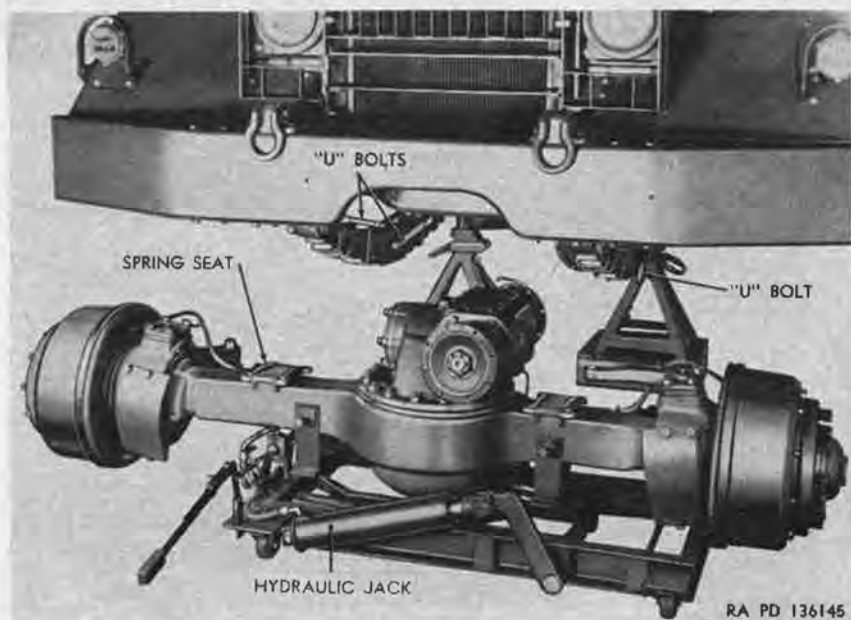

Figure 227. Removing front axle assembly.
- (9) *Remove front axle* (fig. 227). Lift the four U-bolts, two on each front spring, free of the spring seats, and lower hydraulic jack sufficiently to allow removal of axle from under truck. Pull jack with axle assembly forward and out from under front of truck. Remove spring seats from axle assembly.
- (1) *Position front axle.* With front axle supported by hydraulic jack (fig. 227) in lowered position, push jack and axle assembly under front of truck. Place left and right spring seats on axle, and making sure that all U-bolts are properly aligned and that spring center bolt heads enter alignment holes in spring seats, raise axle sufficiently to permit assembly of brake lines.